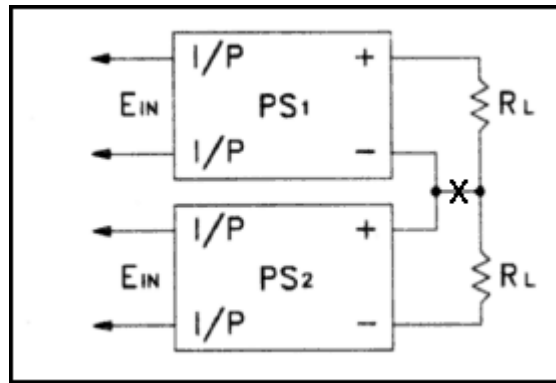

Fig. 15
a. Fig. 15 describes a sample set up for separate distinctive loads. Protective diodes (D1 and D2 below) may be necessary with this type of application to protect the power supplies if connection X is lost.